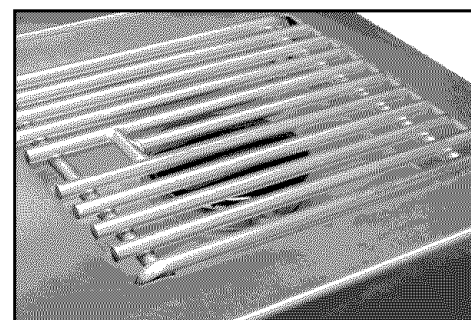

Fig. 8
4. Replace Grate on top of the dual burners. (See Fig. 8)